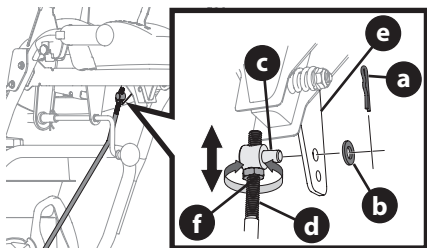

Figure 49
2. Remove cotter pin (a) and washer (b) from adjustment ferrule (c) on shift rod (d) and pull it out from shift lever (e) (Figure 49).